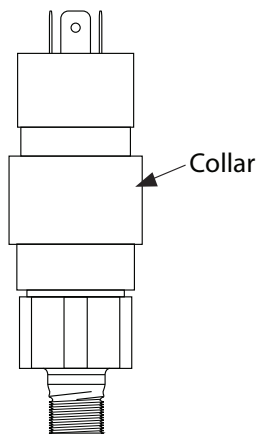

Figure 10: Pressure Switch
6. Open the collar of the pressure switch by pushing it toward the spade connectors. See Figure 10.